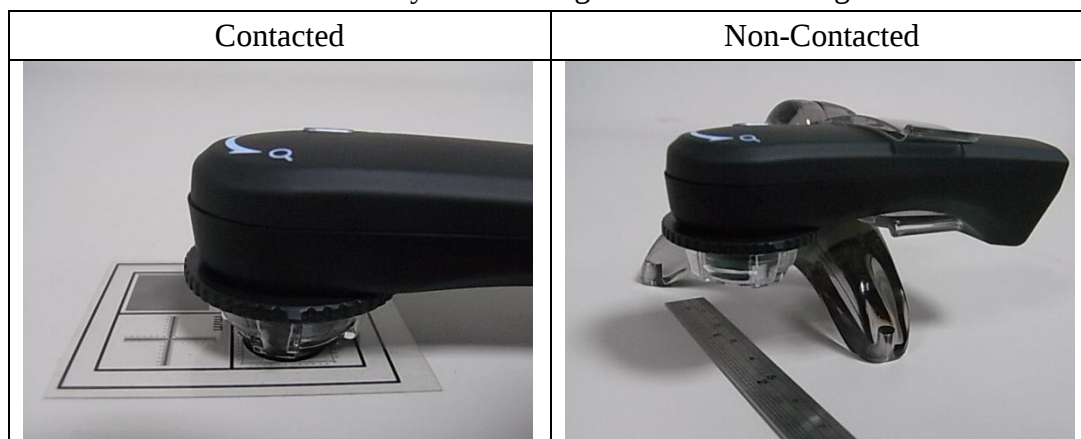

Fig. 5-37 Contacted and Non-Contacted
(3) Calibrate “contacted” and “non-contacted” scale
- Non-contacted scale: To hold the machine by the supporter, fix the machine overhead a ruler for a certain distance, it can observe a wider field of view. Non-contacted scale is only for low magnification. See Fig 5-37.